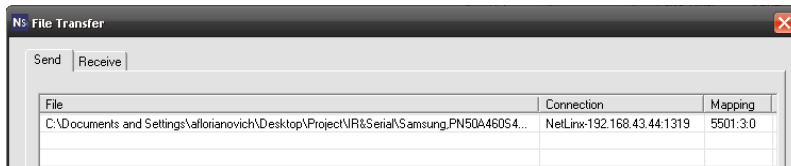

FIG. 66 Select Files for File Transfer dialog - Files To Send queue (NetLinx Studio)
7. At this point, the selected IRL File and mapping information is indicated in the File list (FIG. 66):